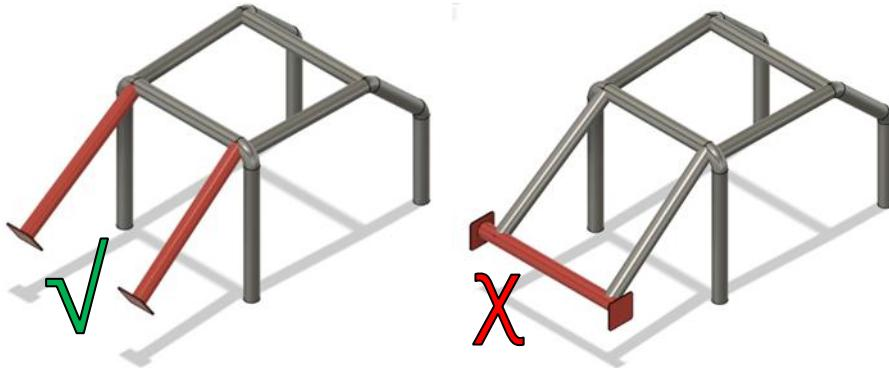

Figure 8
- A. The main roll hoop shall have two braces extending to the rear attaching to the chassis/unibody. Refer to Figure 8